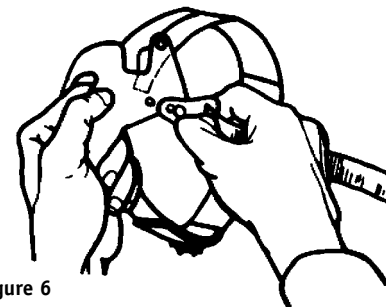

Figure 6
3. Align holes on chin strap to stud buttons and pull downward to lock in place (see Figure 6).